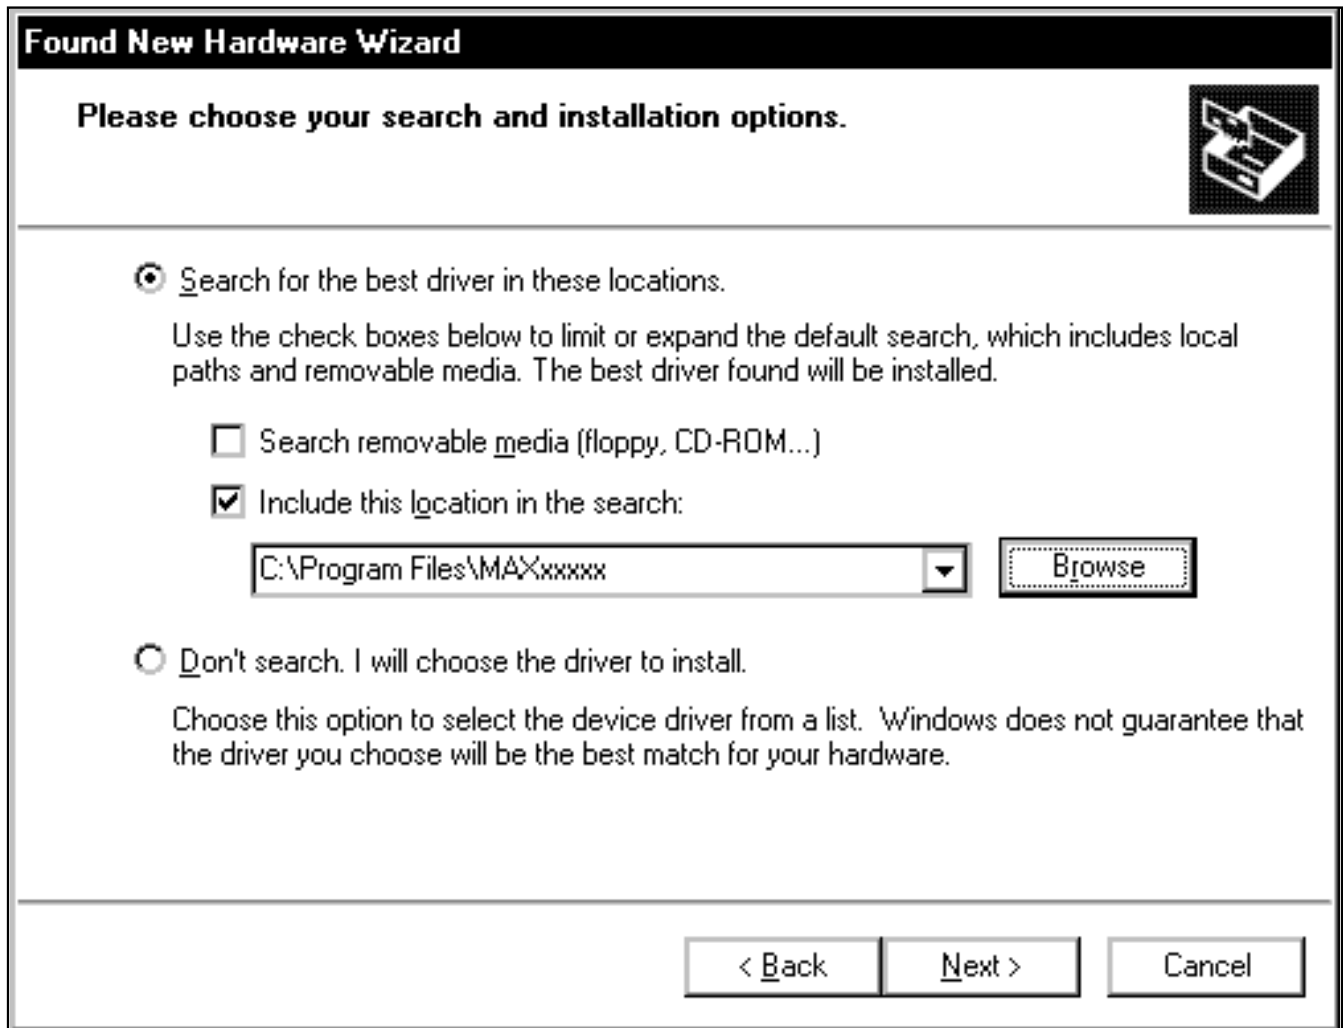

Figure 3. Windows XP: **Found New Hardware Wizard | Search Options** Window
- At the **Found New Hardware Wizard | Search Options** window (Figure 3), choose the **Search for the best driver in these locations** option and check the **Include this location in the search** checkbox. Press the **Browse** button and navigate to the path: **C:\Program Files\MAXxxxxx** (where xxxxx represents the Maxim IC part number on the